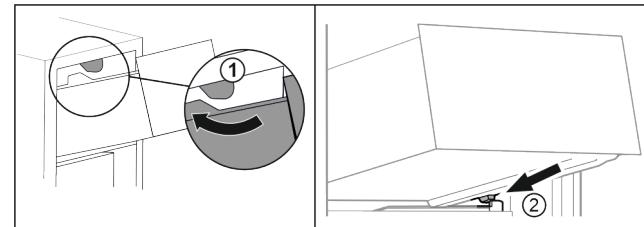

Fig. 73
- Guide drawer around the upper stoppers. Fig. 73 (1)
- Place drawer at an angle behind the lower stoppers onto moulded rib. Fig. 73 (2)